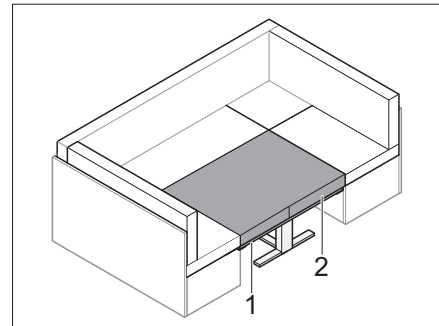

Fig. 64 Inserted additional cushion
- Insert the supplied additional cushion (Fig. 64,2).